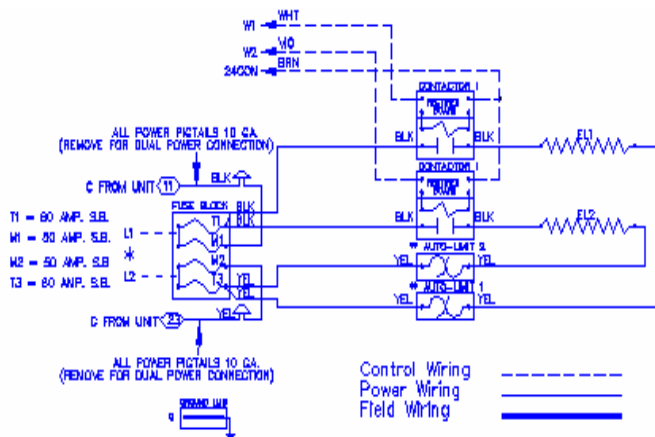
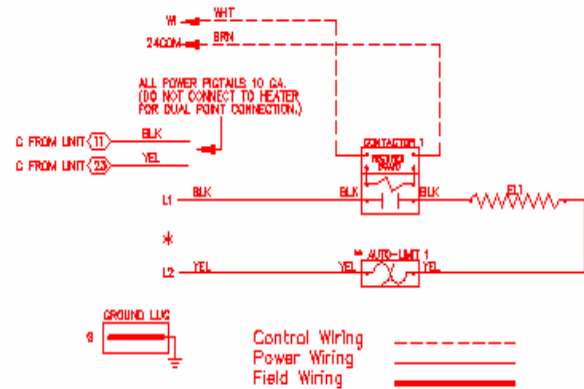

FIG. 2 - Wiring schematic for fused heater.
FIG. 3 - Wiring schematic for non-fused heater.
11. Remove power line connection from heater to unit contactor and compressor. Refer to wire diagram for location of wires (See Fig.2 and Fig. 3).
6. Connect low voltage wires as shown in heater schematic diagram (See Pg. 4). The connections must be made in the 24V barrier section inside unit panel (See Fig. 2). For 50CE,CR,DT,DU,XL,XT,604C,607B/D,707B/D connect the adaptor harness kit (provided with heater) to the low voltage wires of heater. Connect the harness plug to the mating 5 pin connector on the unit control board found at the bottom of the control box.